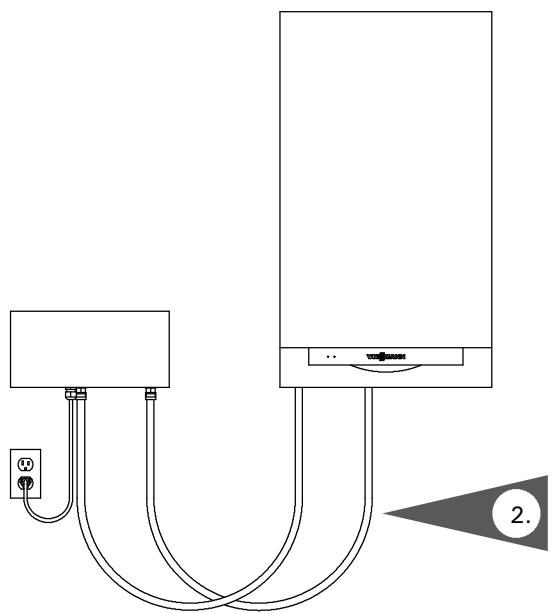

Fig. 2
1. Remove cover of power/pump module and mount the module base next to Vitodens 200-W, WB2B boiler (as shown in Fig. 2 on following page), using the four screws supplied.